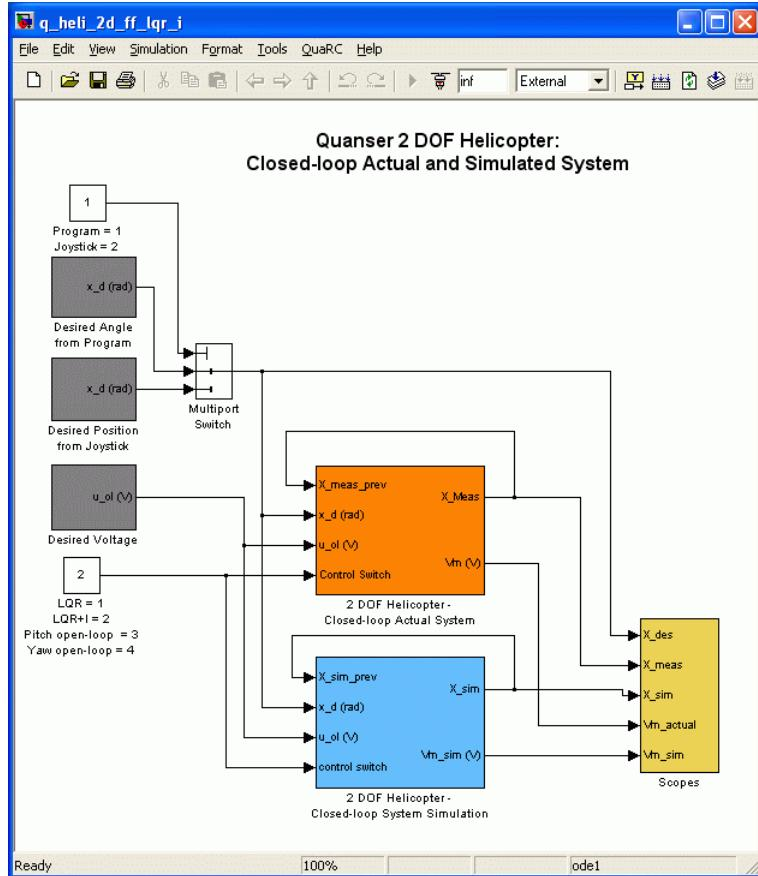

Figure 5.15: Simulink model used with QUARC to run the closed-loop controller on the 2 DOF Helicopter
2. Open Simulink model *q_heli_2d_ff_lqr_i.mdl* shown in Figure 5.15 that implements the closed-loop LQR and LQR+I position controllers.
5. Open the 2-DOF HELI subsystem shown in Figure 5.15. It contains the QUARC blocks that interface with the hardware of the actual plant. The Analog Output block outputs the voltage computed by the controller to the DAQ board and the Encoder Input block reads the encoder measurements.
9. In the `q_heli_2d_ff_lqr_i` Simulink diagram, make sure the *Program/Joystick* block shown in Figure 5.15 is set to 1 in order to generate the desired angle from Simulink.
21. Alternatively, the desired angle can be generated using the joystick. To use the joystick, set the *Program/Joystick* switch shown in Figure 5.15 to 2. The rate at which the desired angle increases or decreases given a joystick position can be changed using the *K_JOYSTICK_X* and *K_JOYSTICK_Y* variables that are set in the *setup_lab_heli_2d.m* script file and the using the *Rate Command* knob. When starting, set the *Rate Command* knob on the joystick to the midpoint position.